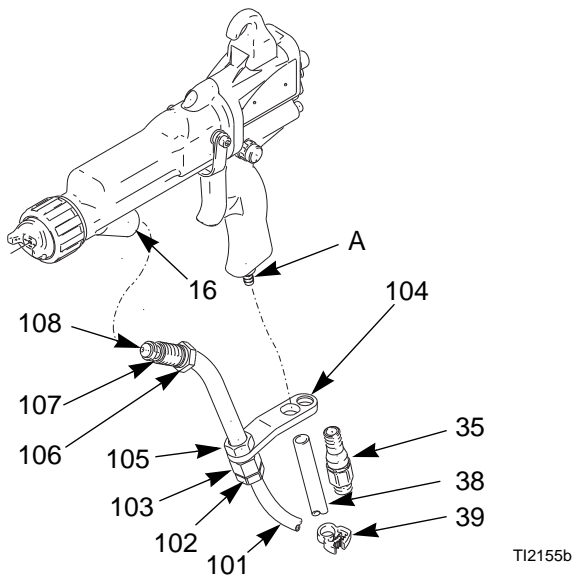
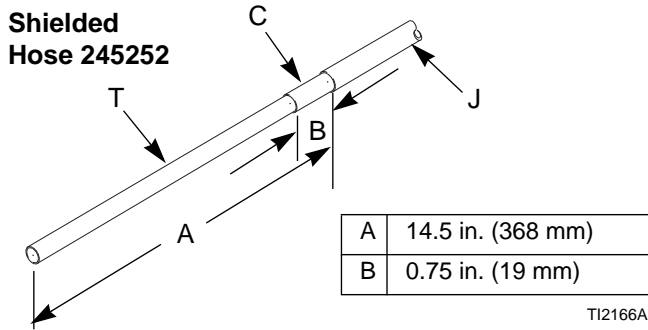
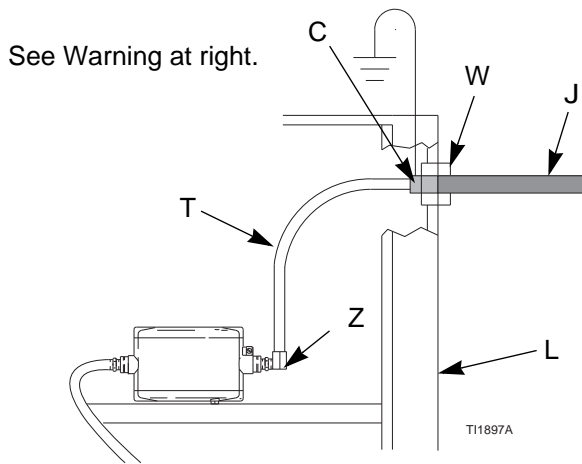

Fig. 3. Connect the Fluid Hose
Fig. 7. Waterborne Hose Dimensions (At Graco WB100 Enclosure)
Fig. 8. Shielded Fluid Hose Connection at Graco WB100
Always use a Graco waterborne fluid hose between the voltage isolation system fluid outlet and the gun fluid inlet. See FIG. 3.. The waterborne fluid hose (101) consists of an inner PTFE tube (T) and an abrasion-resistant outer jacket (J). Shielded hose 245252 also has a conductive layer (C). The conductive layer is connected to ground at the gun fitting bracket (104).
1. Remove the gun air inlet fitting (35). See FIG. 3.
3. Generously apply dielectric grease (40) to the o-ring (107) and the threads of the fitting (106). Pull the fitting back 1-1/2 in. (38 mm) and apply grease to the exposed PTFE hose to fill the area between the hose and the fitting. Make sure the barrel inlet is clean and dry, then screw the fitting into the fluid inlet of the gun barrel (16). See FIG. 3.
4. Loosen the strain relief nut (102) so the bracket can move freely on the hose.
5. Align the bracket (104) holes with the air inlet and exhaust outlet. Secure with the air inlet fitting (35). Tighten the strain relief nut (102) to secure the hose.
6. Check that the nut (105) is tightened securely to the ferrule housing (103).
7. Press the exhaust tube (38) onto the barbed adapter (A). Secure with the clamp (39).
- a. *Graco WB100 Enclosure:* Slide hose through the strain relief fitting (W). Ensure conductive layer (C) has passed through fitting. Tighten to 55 in-lb (6.2 N•m). Pull back on hose to check it is secure. Comply with the requirements in **Warning** at right. See FIG. 7. and FIG. 8..